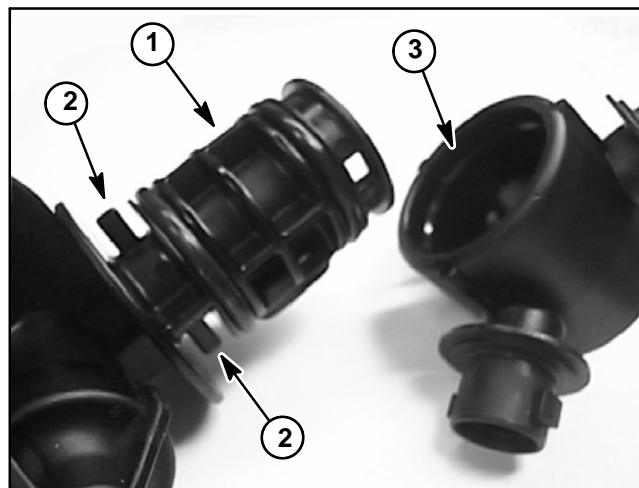

Figure 61
- A. The turret (item 8) end with slightly larger bore and detent grooves needs to be orientated toward detent posts on body (item 4) (Fig. 61).
- B. Make sure to align notch on plug (item 10) with groove in body (item 4) as plug is installed.
- C. Install e-clip (item 5) into body to secure assembly.